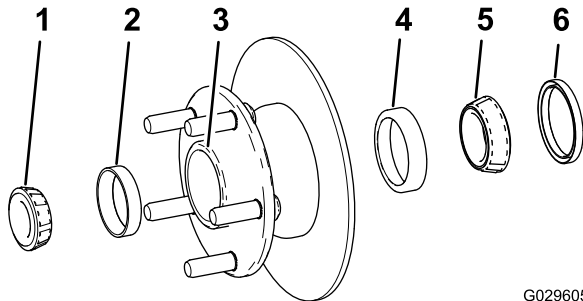

Figure 30
1. Remove the outboard bearing and bearing race from the hub (Figure 30).
2. Remove the seal, inboard bearing and bearing race from the hub (Figure 30).
5. Clean the cavity of the hub of all grease, dirt, and debris (Figure 30).
7. Install the inboard and outboard bearing races into the hub (Figure 30).
8. Fill the cavity of hub 50 to 80% full of the specified grease (Figure 30).
9. Assemble the inboard bearing onto the race at the inboard side of the hub and install the seal (Figure 30).